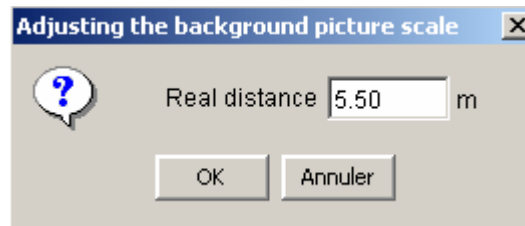

Figure 19: adjusting background picture to scale
- **Adjusting the picture to scale:** this option enables to adjust the scale of the background picture to the one of the graphical view (it is available only if a background picture is active). After selecting this option, you are requested to draw a reference segment on the picture (horizontal, vertical or any direction). A dialogue box then opens (Figure 19) and requests the "real" length of this segment. The size of the picture is then adjusted, and it can be placed wherever wanted.